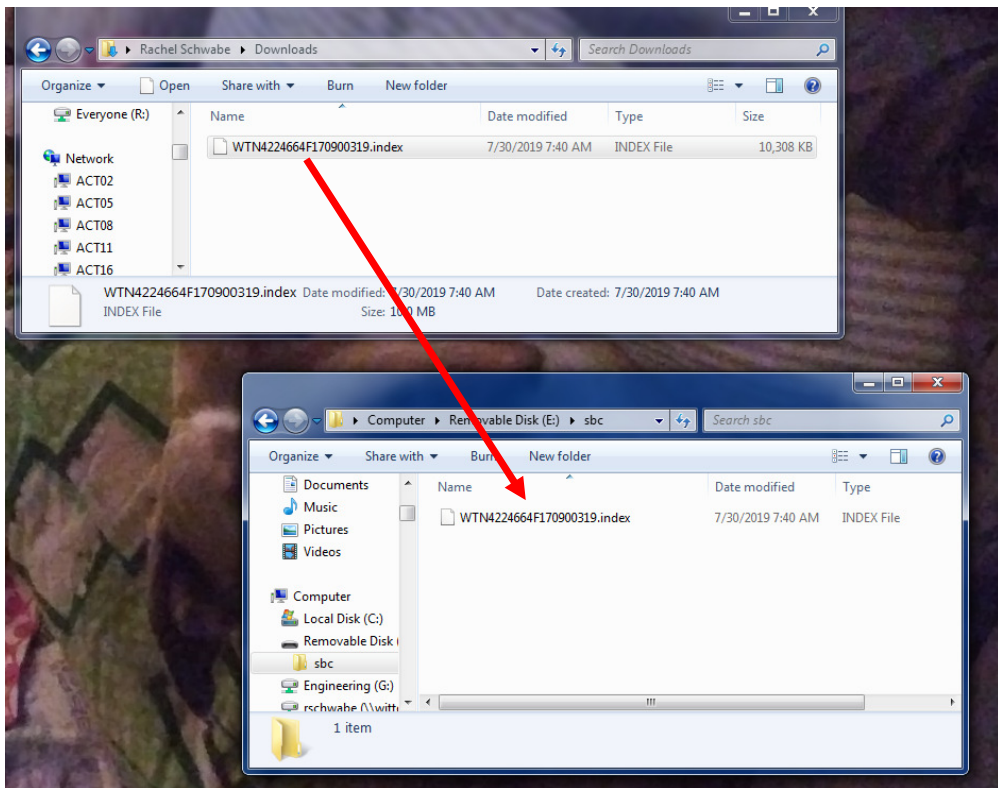

Figure 44b (Final folder must be named SBC)
5. Once the file has been moved to the flash drive you will then need to create a new folder within the flash drive that is labeled as **sbc**. Once the folder is created move the .index file into the folder (See figure 44b).